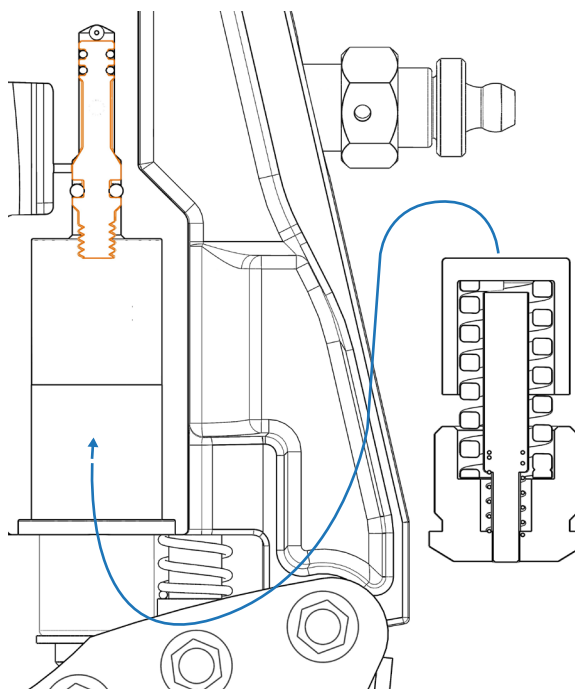

Figure 10
3. Hand-tighten the valve as much as possible in the vertical position. (see Figure 10)